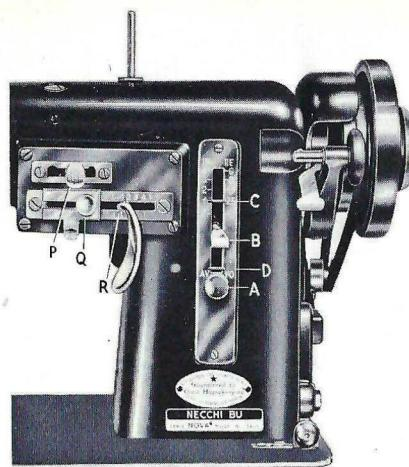

Fig. 22
Should one, however, wish to do *straight stitching* only, the aforementioned needle plate and presser foot can be replaced with a Straight Stitch Needle Plate and Straight Stitch Hinged Foot, which are also furnished with the machine. In such cases the position lever "P" (see figure 22) should be set in left notch.
1. Set position lever "P" (Figure 22) in left notch.
(See Figure 22 for reference.)
1. Set position lever "P" in center notch (Figure 22).
2. Set lever "B" (Figure 22) as close to zero mark as possible, and still allow the material to feed.
3. Set zig-zag stitch lever "R" (Figure 22) for desired stitch width.
1. Set zig-zag stitch lever "R" between zero and #1 (Figure 22).
1. Set lever "B" for "satin" stitch (Figure 22).
3. Set zig-zag stitch lever "R" (Figure 22) between 0-1.
2. Set zig-zag stitch lever "R" at #1 (Figure 22).
3. Set zig-zag stitch lever "R" at zero (Figure 22).
2. Set position lever "P" in center notch (Figure 22).
1. Set position lever "P" in right notch (Figure 22).
2. Set zig-zag stitch lever "R" on #4 (Figure 22).
3. Adjust zig-zag stitch lever "R" (Figure 22) on zig-zag stitch scale, according to thickness of cord being used. Heavier cord requires a wider zig-zag stitch. Use closely spaced zig-zag stitches to make a heavy covered raised stitch.